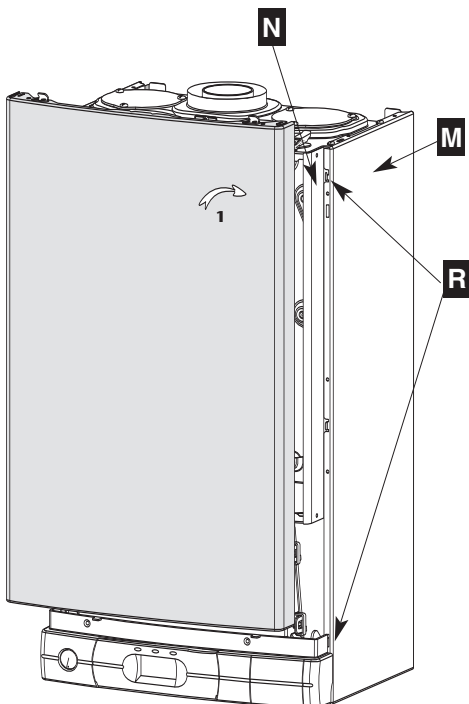

Fig. 40
3. The value is adjustable between 0 and 10, 0 being the minimum output and 10 being the maximum, please refer to the chart on page 33 (Fig. 40) for the required setting;
- Engage hooks **N** on the casing in notches **R** on the side panels **M** (Fig. 40);